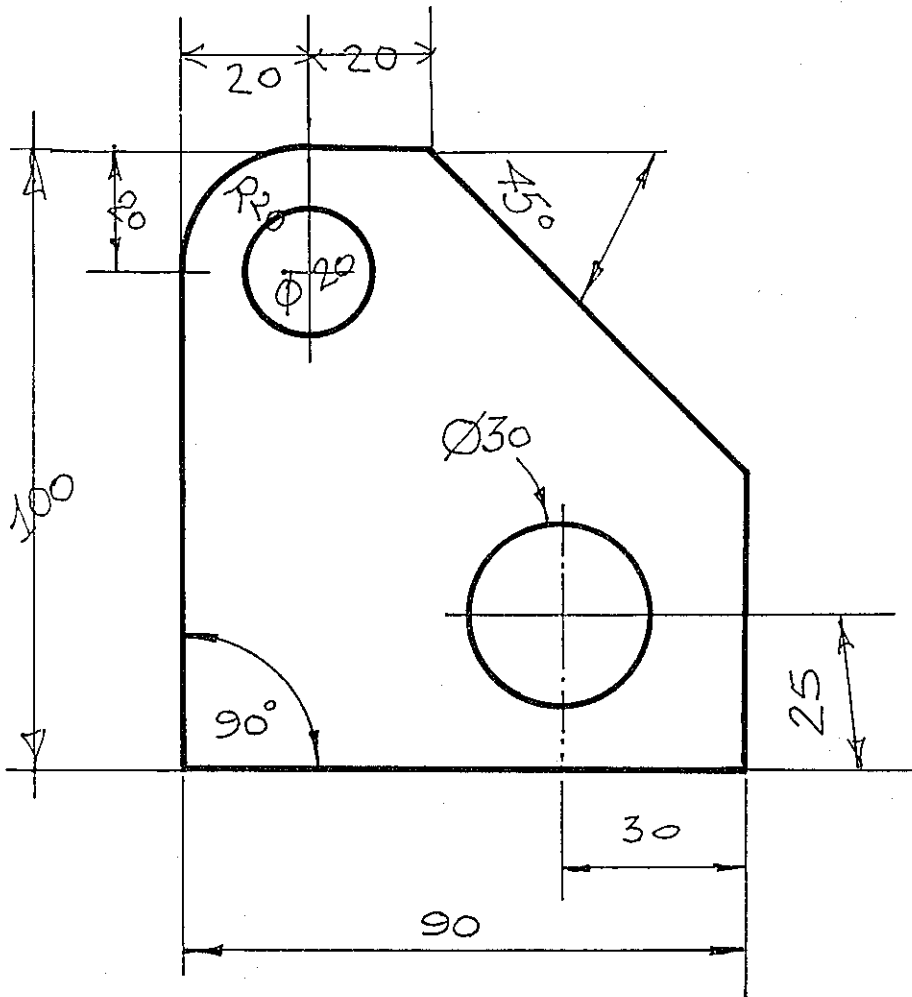

FIG.4
4. (a) Fig. 4 shows an incorrectly dimensioned template. Assume all numerical values to be correct.